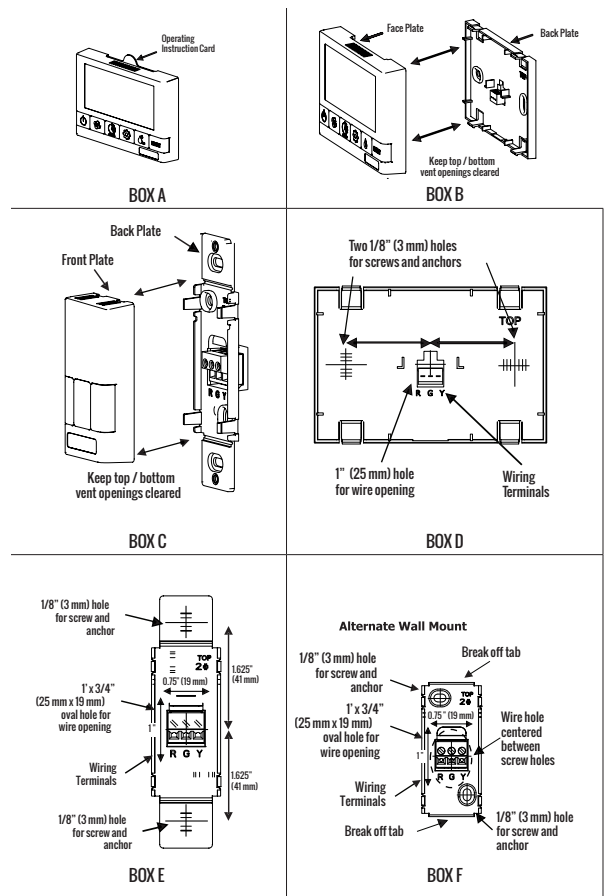

Figure 30. Installation of Controls
2. Pairing PrecisionSYNC Control (435244): Press the left and right buttons simultaneously on the control  and RESET buttons. The screen will go blank and the wireless symbol  appear flashing on the bottom right of the display. This indicates that the control is now in pairing mode (Figure 30, Box D).
3. Pairing 20/40/60 Minute Wireless Timer (435248) with Two-Speed Switch with Humidity Sensor (435245) and Two-Speed Switch with Intermittent Mode (435246): Press the left and right buttons simultaneously on the control  and  buttons). The bottom row of three LEDs will begin flashing. This indicates that the main control is now in pairing mode (Figure 30, Box E).
- 1. Separate the face plate from the back plate by firmly pulling apart (Figure 30, Box A).
- 2. For mounting the control without a decorative plate, break off top and bottom tabs and refer to Figure 30, Box C for mounting.
- 3. Place the back plate of the control in the desired location on the wall and pencil mark the top and bottom screw holes (Figure 30, Boxes B or C). Drill two 1/8" (3 mm) holes.
- 5. Attach the face plate to the back plate (Figure 30, Box F).